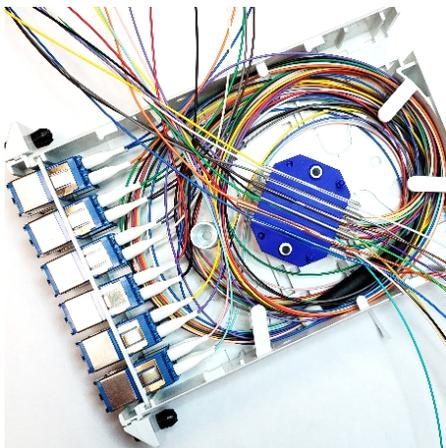

Figure 17
7.5 Repeat this process of joining 900 μm fibers from the cassette to the appropriate breakout kit subunit fibers. Use velcro and zip ties for cable management inside cassette. After completing the blue subunit from the breakout kit, the orange nylon breakout subunit blue fiber will then be spliced to the blue 900 μm fiber of the cassette unit 2. (See **Figure 17**) **Your first protected splice from the orange subunit will be in the 3rd stacked splice module.**